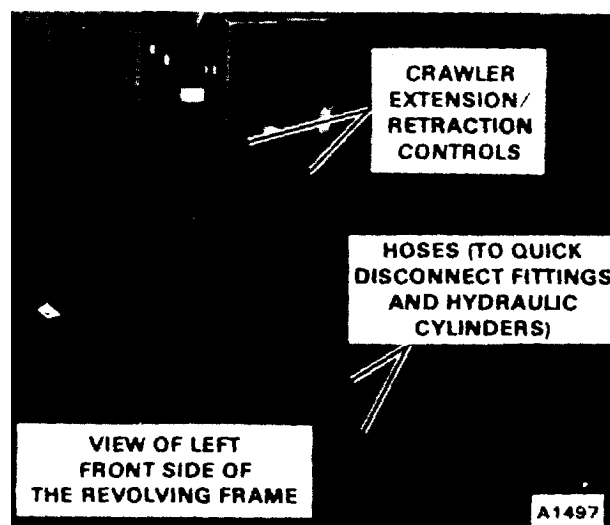

Figure 2-6. Crawler Extension and Retraction Controls
51. CRAWLER EXTENSION AND RETRACTION CONTROLS (See Figure 2-6). These controls are mounted on the revolving frame and are used to extend and retract the crawler tracks. See the topic, Extending and Retracting the Crawlers, later in this section for the operation of these controls.
A bank of valves, located at the left front side of the upper, controls the extension and retraction of the crawler tracks. Flow to this valve bank is controlled by the combination valve located at the hydraulic reservoir. This valve is controlled by a switch mounted adjacent to the valve bank in the left front side of the upper as shown in Figure 2-6.